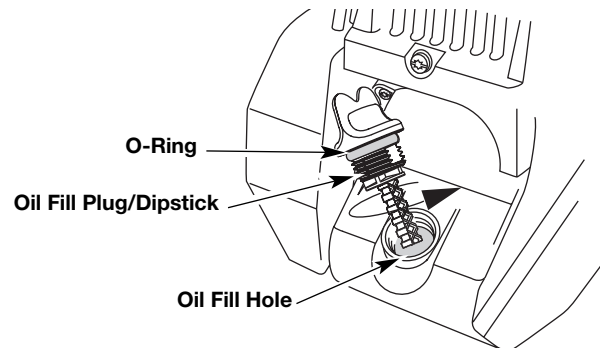

Fig. 20
6. If the level is low, add a small amount of oil to the oil fill hole and recheck (Fig. 20). Repeat this procedure until the oil level reaches the top of the dipstick.
NOTE: Make sure the O-ring is in place on the oil fill plug/dipstick when checking and changing the oil (Fig. 20).